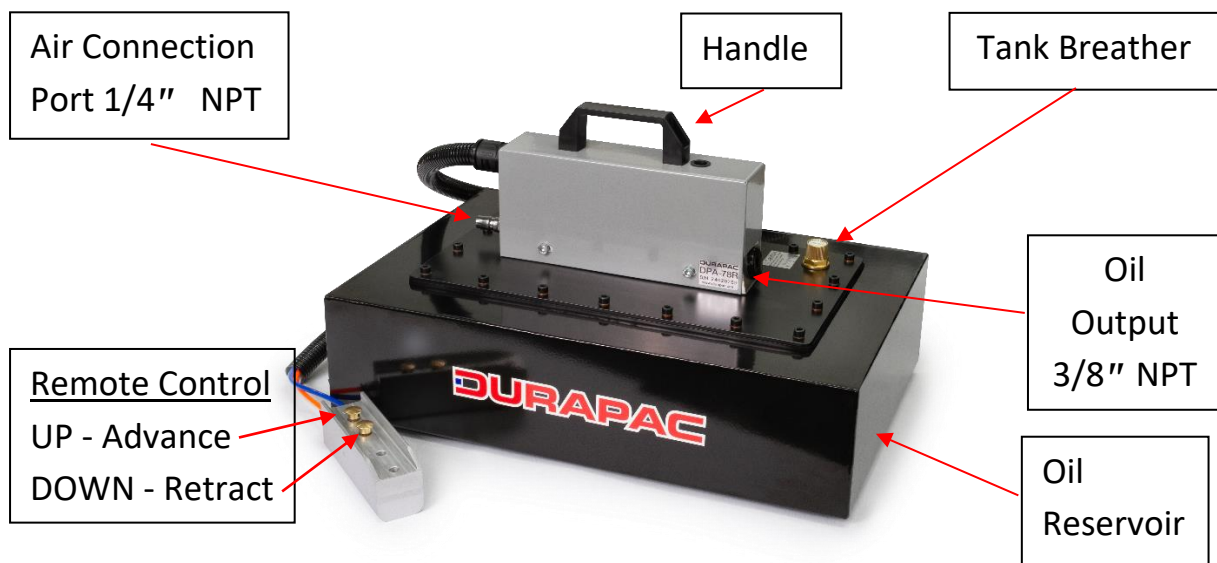

Figure 1 - DPA-78R Components
- 5.1 Air connection - Remove plug from air input port (refer Figure 1) and connect to adequate air supply.
- 5.2 Hydraulic connection - Remove manifold plug from oil output port and connect to suitable application using 3/8" NPT connection. Open tank breather 1-2 turns (refer Figure 1).
- 5.3 To operate/advance the power unit, press and hold on the UP button of the remote control until the desired pressure, load or position is reached (refer Figure 1).
- 5.4 To retract application, simply press the DOWN button on the remote control (refer Figure 1).